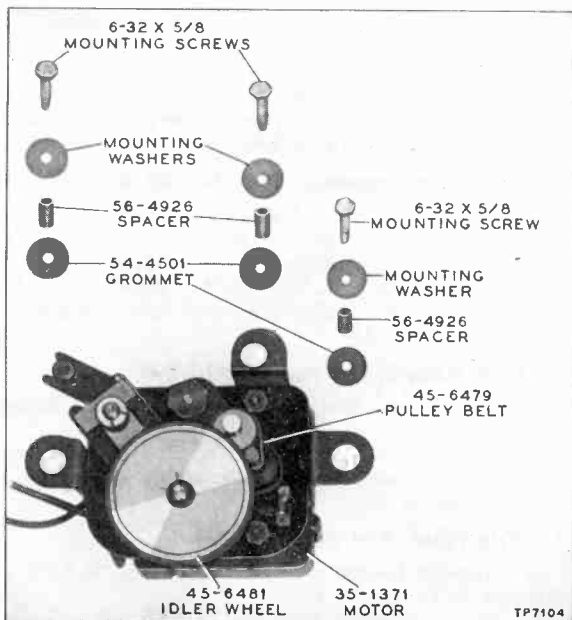

Figure 23. Motor Assembly
- d. Disconnect second motor lead by unsoldering it at splice from switch lead. The motor assembly is shown in figure 23.
- f. Remove the three screws, washers, and bushings from motor frame (figure 23), and lift out motor.